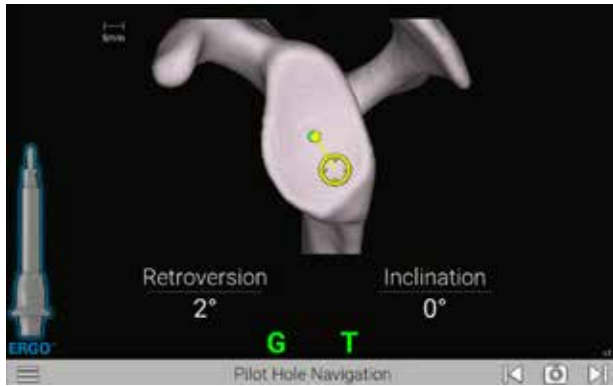

Figure 55a
Follow the on-screen guidance to place the components according to the plan (Figures 55a and 55b). Both the pilot hole and k-wire insertion screens are guided in a similar fashion with real-time feedback on the position of the Driver and K-wire Guide.
- For positioning of the Drill, the tip of the Drill is indicated by a yellow dot (Figures 55a and 55b).
- The planned position is indicated by a blue dot (Figure 55a).